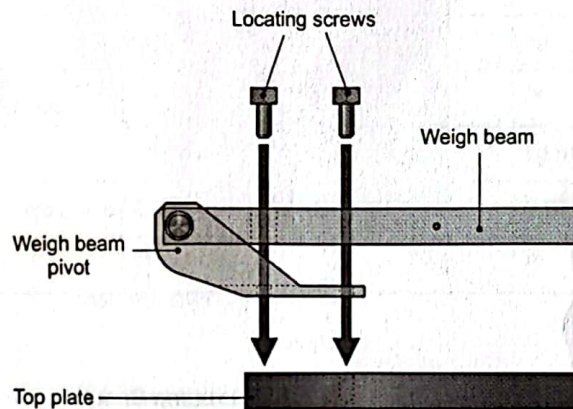

Figure 4 Fit the Weigh Beam
1. Fit the weigh beam assembly to the top plate and secure using the screws supplied (see Figure 4).